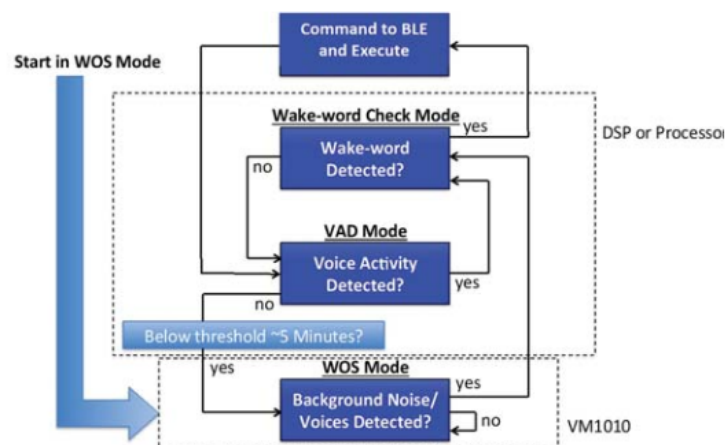
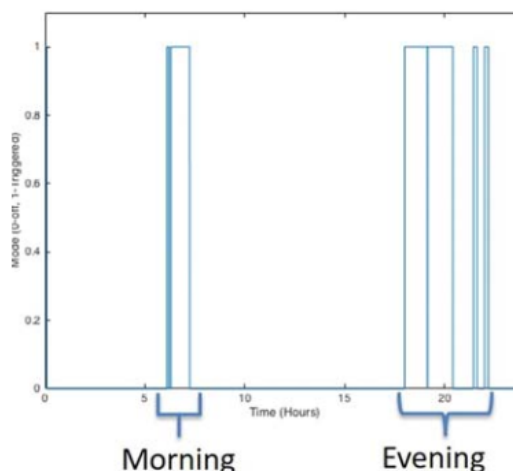

Figure 1: Flow chart for Wake word detection using Wake On Sound Mode
Figure 2: Logged data from VM1010 (x-axis shows time in a 24-hr period)
One example of a way to replace push-to-talk remotes with an always listening solution is Zero Power Listening™ technology from Vesper Technologies. This solution uses a capacitive MEMS microphone to build a far-field voice remote. Such a design will continuously run a Voice activity detector to detect voiced versus non-voiced frames based on the speech activity level, as shown in the large dashed box in Figure 1. The active voice frames then trigger the rest of the system beginning with a wake word detection engine to identify if a wake word such as “Alexa” is spoken.
The additional Wake on Sound mode in VM1010 acts as an acoustic watchdog to wake up the rest of the processor when there is a sound activity in the environment (Figure 1). In other words, WoS mode runs below the lowest power voice activity detect mode. In a noisy environment the system will move into voice activity detect mode. The threshold configuration between 65 – 78 dB SPL(A) provides an additional adjustment to control the WoS mode based on the expected acoustic level in the surrounding environment. In the case of a voice remote where the user is located at distance of 1-2m from the remote and the remote itself is, for instance, on a couch another 2m from the TV, the threshold provides the flexibility to fine tune the listening level of the microphone against the TV playback volume level. The minimum threshold level of 65 dB avoids false triggering from non-speech activity within the voice band. For a remote-control scenario, the background noise from the TV playback is a major concern to avoid switching from WoS to normal mode operation. Therefore, the maximum threshold of 78 dB is an optimal solution to avoid false triggering in this case. Figure 2 shows the mode triggers recorded with WoS microphone in a 24-hour period, which indicates that the switching between two modes happens only during the most active periods of the day in a typical household. This selective triggering with WoS mode, therefore, saves standby power as the rest of the TV remote including converters, voice processors etc. is in sleep mode.